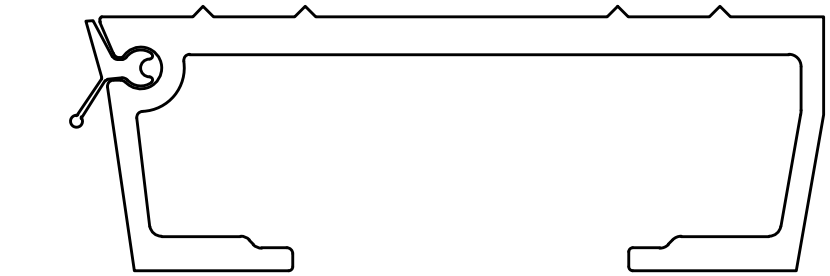

FIGURE 23: INSTALLED SEAL
3. PULL THE SEAL INTO THE FLOOR SLAT. MAKE SURE TO INSTALL THE SEAL IN THE CORRECT DIRECTION. SEE FIGURE 23 FOR HOW THE INSTALLED SEAL SHOULD LOOK. 1218 SEAL SHOWN.